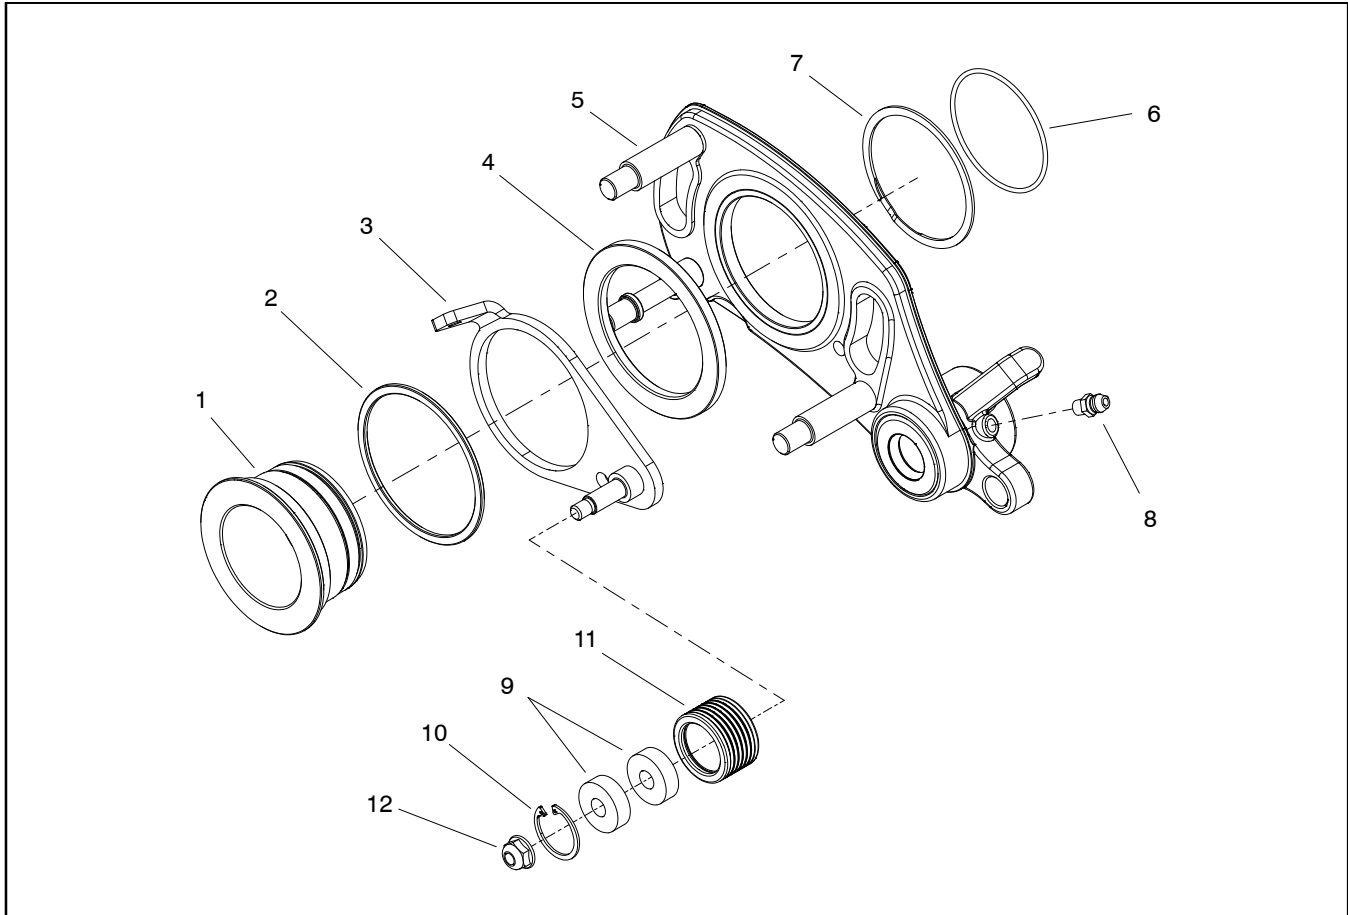

Figure 25
4. Using Figures 25 and 26 as guides, remove idler bracket, idler pulley and/or idler bearings as needed.
1. Assemble removed components using Figures 25 and 26 as guides.